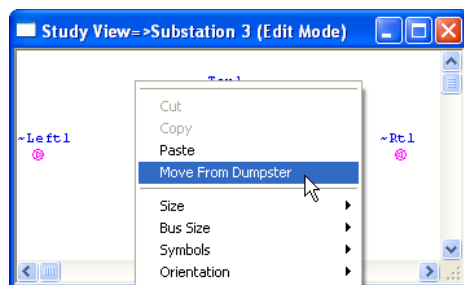

Fig. 9
- Right-click anywhere inside the “Study View=>Substation 3 (Edit Mode)” window and select “Move From Dumpster” command. See Fig. 9